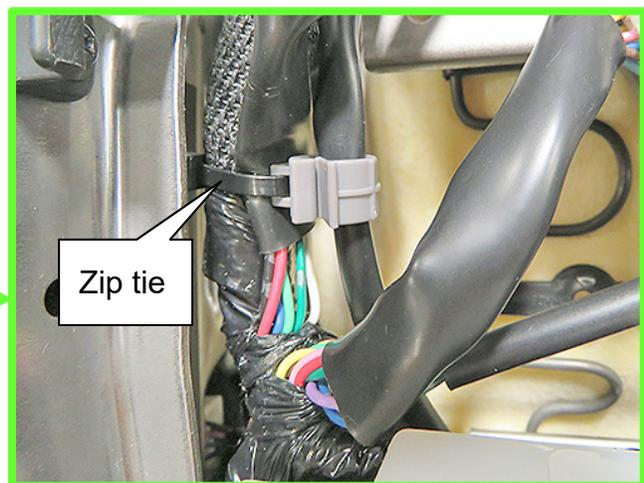

Figure 9
11. Cut through the zip tie shown in Figure 9.